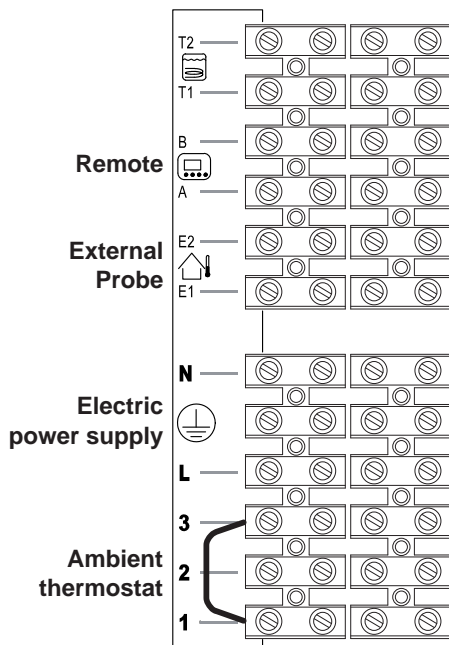
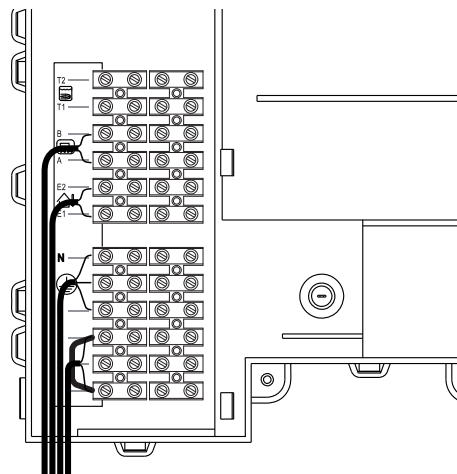
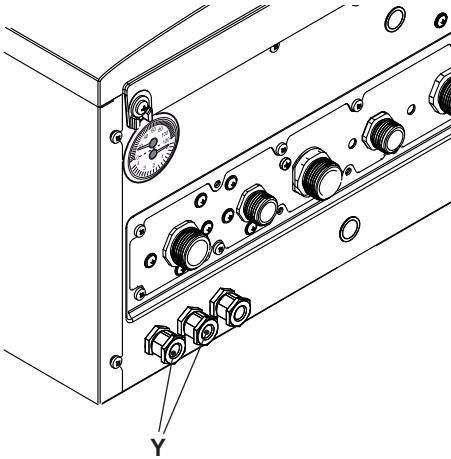

Fig. 6.16
Fig. 6.17
Fig. 6.18
- Connect the electric power supply cable coming from the fused spur isolation switch to the power supply terminal block of the boiler Fig. 6.16 keeping the same connections for the live (brown wire) and the neutral (blue wire). External 3A fuse or fused plug with same current rating is recommended.
The route of the boiler and ambient thermostat's electric power supply cable or wires must follow the route indicated in Fig. 6.17.
Allow the cables to exit the boiler by using the relevant cable clamps Y (Fig. 6.18).
Use the clamps indicated in Fig. 6.16 to connect the ambient thermostat.
Use the ambient thermostat's clamps indicated in Fig. 6.16 and Fig. 6.17. to connect the zone valve. Insert the electric cables of the zone valve's micro switch contacts in clamps "1 and 3" of the ambient thermostat's terminal block as in Fig. 6.17.
The route of the boiler and ambient thermostat's electric power supply cable or wires must follow the route indicated in Fig. 6.17. Allow the cables to exit the boiler by using the relevant cable clamps Y (Fig. 6.18).
The route of the external probe's connection wires must follow the route indicated in Fig. 6.17.
The route of the remote control cable must follow the route indicated in Fig. 6.17. Allow the cables to exit the boiler by using the relevant cable clamps Y (Fig. 6.18).